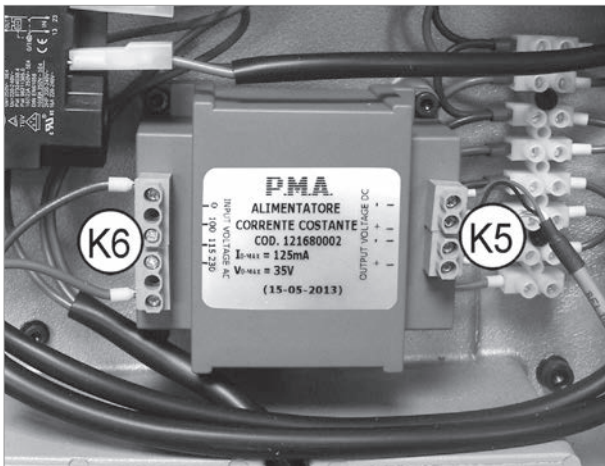

Fig.76
- 7) Use the screws (K6) to fix the 2 power leads into the connectors on the power box (one wire in position 0 and one in the position of the voltage involved 230V). **ATTENTION: observe the position of the wires according to the voltage (Fig.76).**